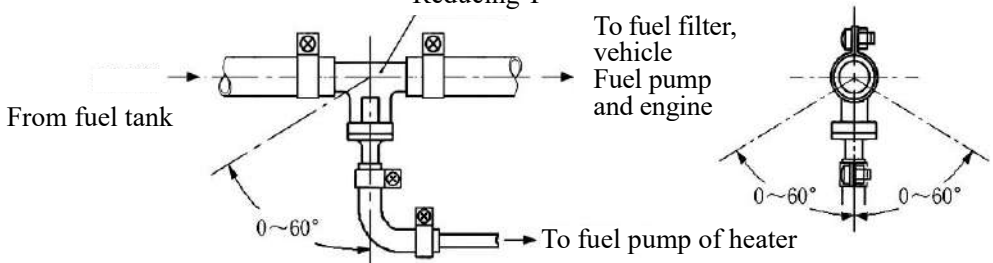

Fig. 21
4.4.6.2 If fuel is sucked from the fuel pipe to the engine, the fuel pipe from the fuel tank to the fuel filter shall be disconnected and re-connected with the thicker pipes of the reducing T and the thinner pipe of the reducing T shall connect the fuel pump of the heater via oil pipe fitting and fuel pipe. Must ensure fuel extraction without any pressure and extract the fuel smoothly when the car is stopping. The angle for installation must in conformity with Fig. 21, or normal work of the heater will be affected.